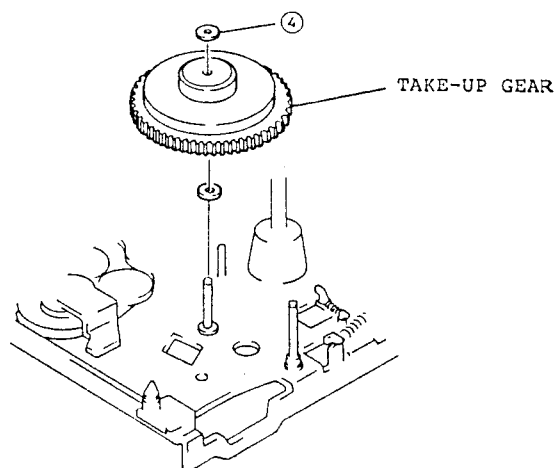

Fig. 2-74
4. Remove one (1) washer holding the the take-up gear. (See Fig. 2-74)